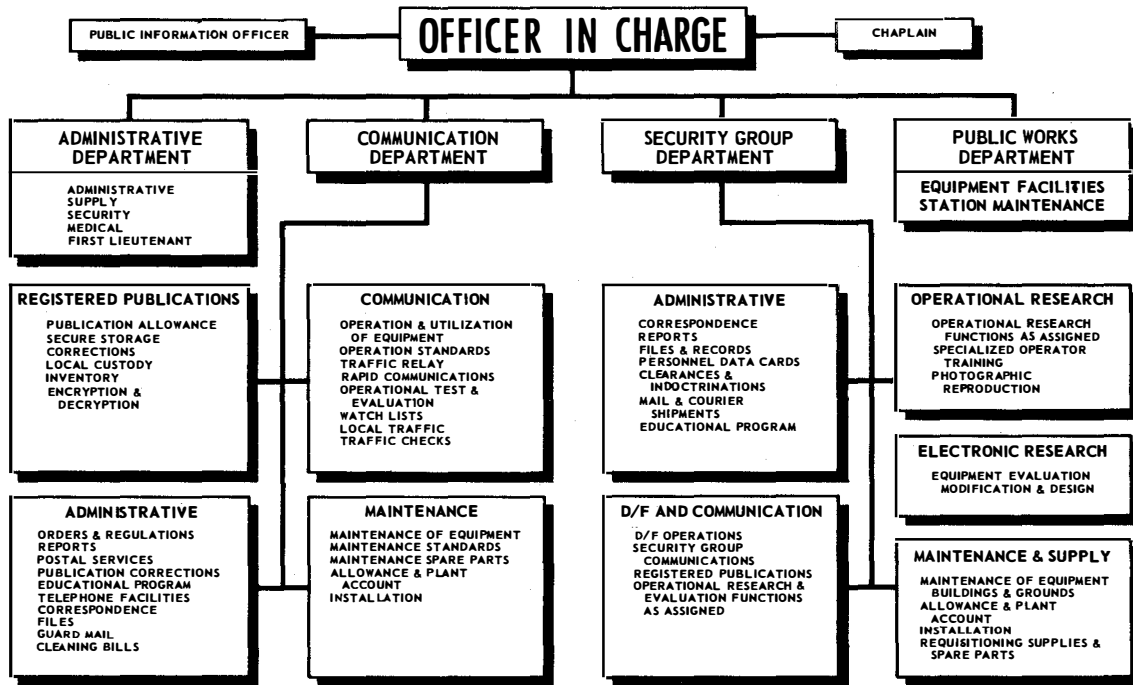

Figure 6-6.—NAVRADSTA (R) organization.
Typical organization of a NAVRADSTA (R) is shown in figure 6-6. Note the two operating departments—communications and security group. They perform the mission of the station and are supported logistically by the administrative and public works departments.